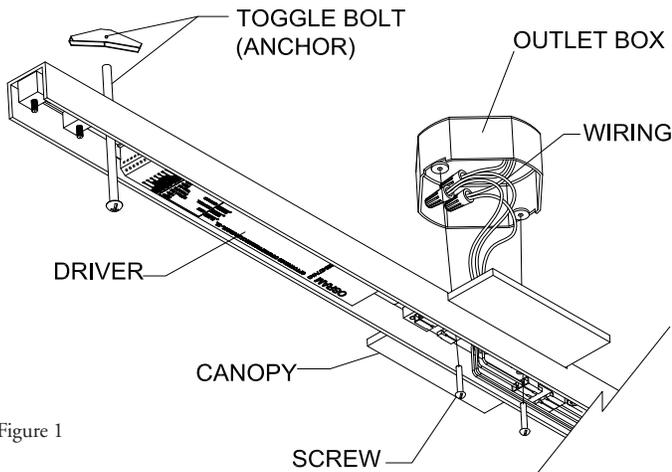

Figure 1
Step 2 Prepare to mount the electrical canopy assembly to the ceiling. Make wire connections between the driver power supplies and the supply wires at the junction box. Connect the white fixture wire to the neutral supply wire; typically white, connect the black fixture wire to the hot supply wire; typically black, connect the copper fixture wire to the ground wire and or the ground terminal in the outlet box. (Figure 1)